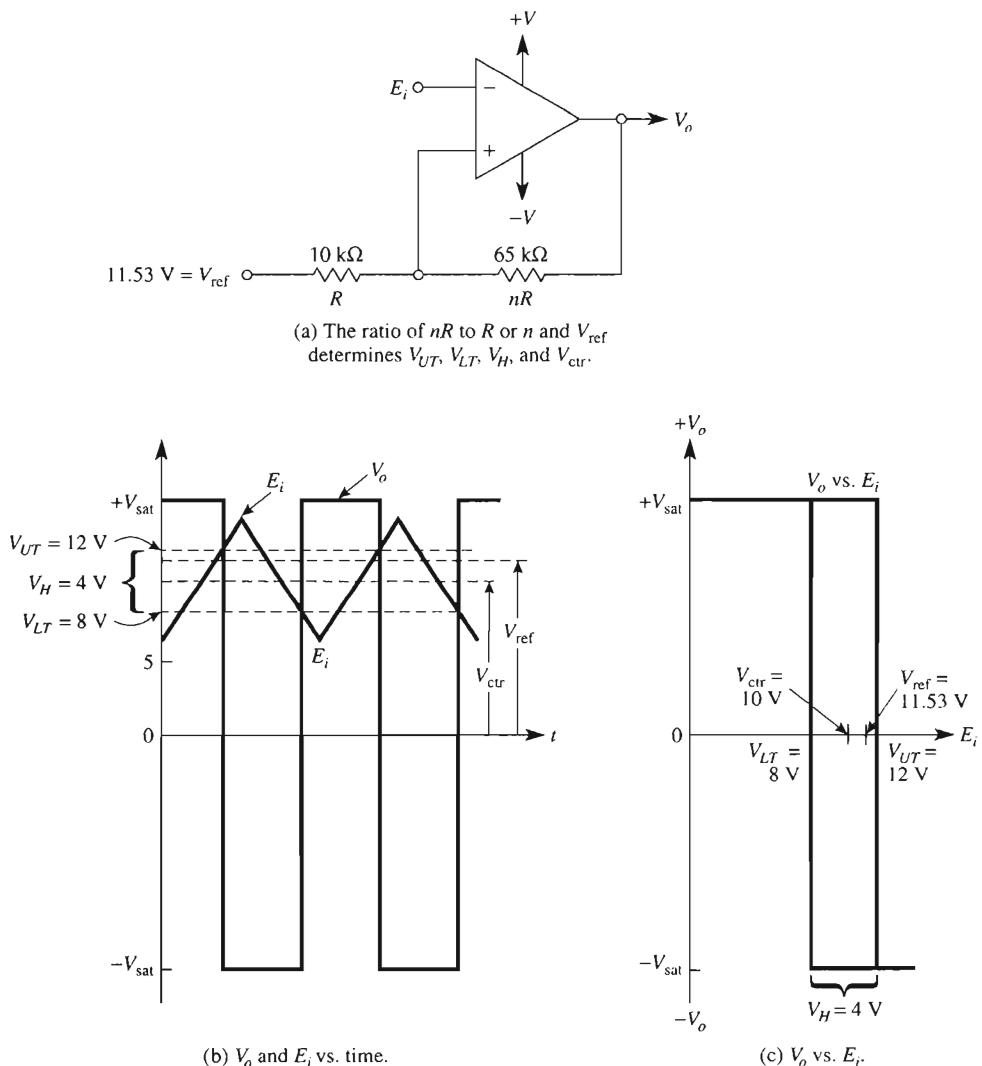

FIGURE 4-8 Inverting voltage-level detector with hysteresis. Center voltage V_{ctr} and V_H cannot be adjusted independently since both depend on n .
If E_i and V_{ref} are interchanged in Fig. 4-7(a), the result is the inverting voltage-level detector with hysteresis (see Fig. 4-8). The expressions for V_{UT} and V_{LT} are
Complete a design for Fig. 4-8 that has $V_{UT} = 12$ V and $V_{LT} = 8$ V. To make this example comparable with Example 4-4, assume that $\pm V_{\text{sat}} = \pm 15$ V. Therefore, $V_{\text{ctr}} = 10$ V and $V_H = 4$ V.
3. Choose $R = 10 \text{ k}\Omega$; therefore, resistor nR will be $6.5 \times 10 \text{ k}\Omega = 65 \text{ k}\Omega$. These circuit values and waveshapes are shown in Fig. 4-8.